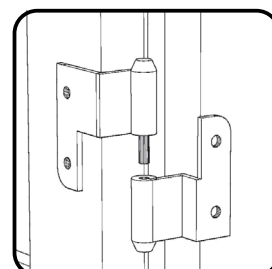

Figure 5
Attach Doors (O) and (P) by sliding door lift hinges into side panel lift hinges. (See Figure 5)